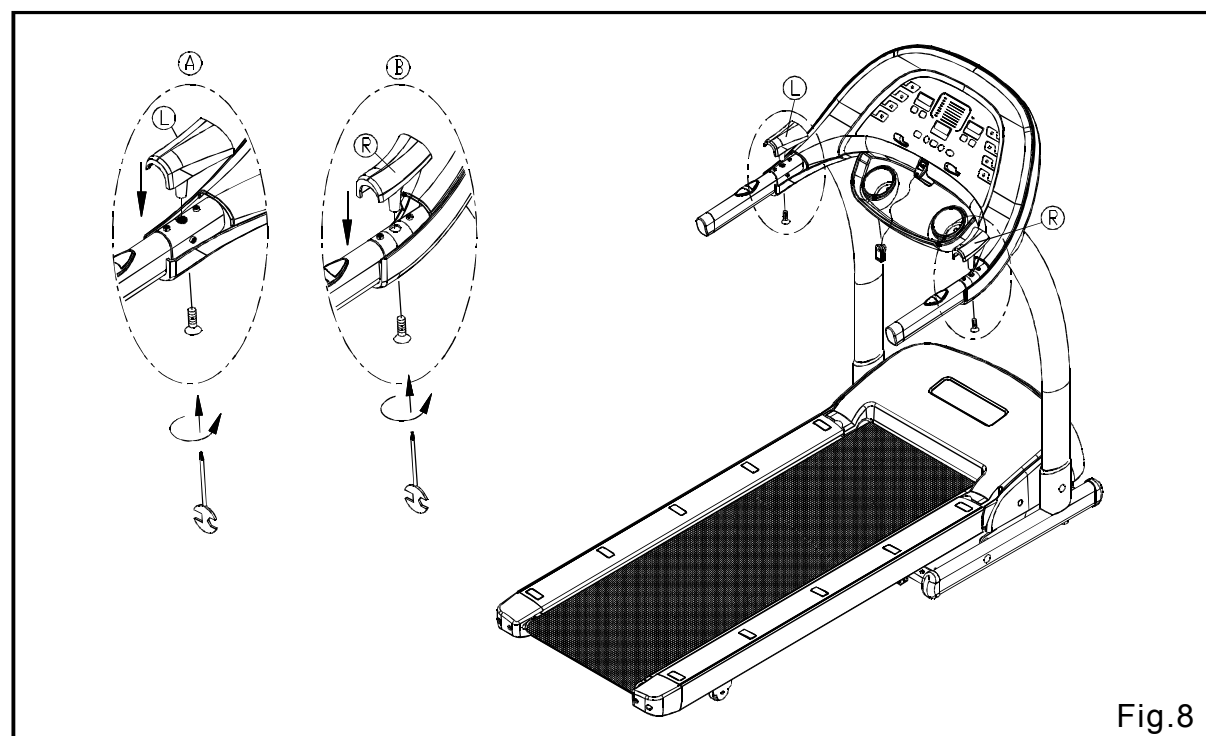

Fig.8
8. Remove screws from the handle connector covers. Push handle connector covers into place as shown in diagram ① and ②. Tighten the screw from the bottom up Fig 8.